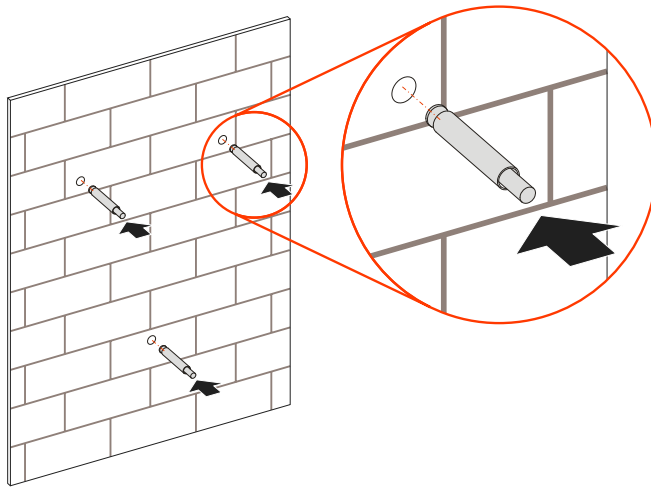

Figure3-9 Install expansion bolts
Step 3 Install the equipped 3 expansion bolts M6*60 into the holes, as shown in Figure3-9.